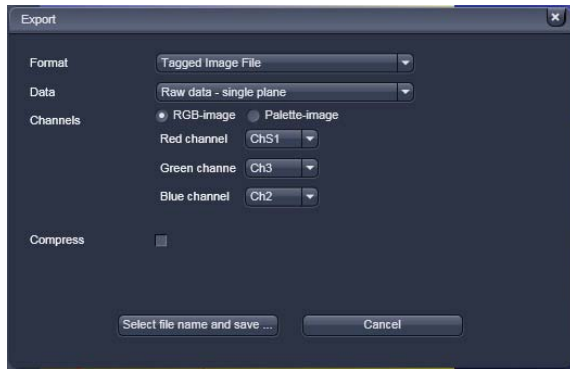

Fig. 4-265 Export window
- This opens the **Export** window (Fig. 4-265).